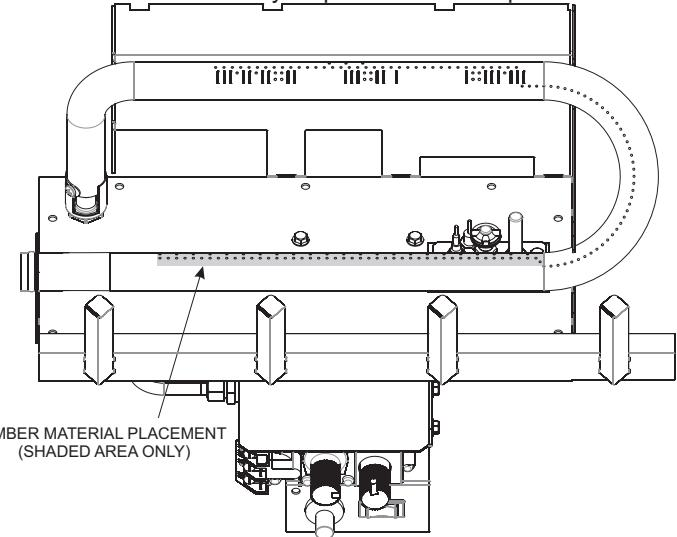

Figure 75
4. Place the ember material pieces on the front burner port area. **See Figure 75.**